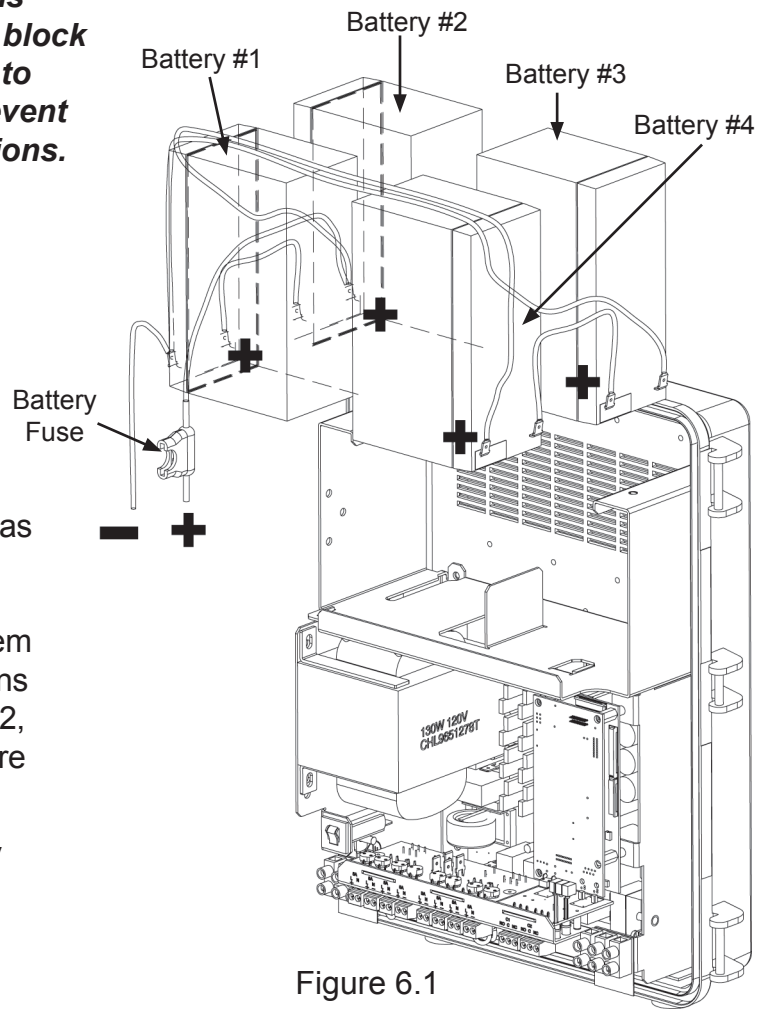

Figure 6.1
1. Install the 4 batteries and wire them up as shown in Figures 6.1 and 6.2.